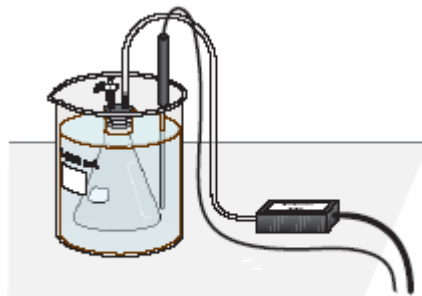

Figure 3
- e. Close the 2-way valve above the rubber stopper—do this by turning the valve handle so it is perpendicular with the valve stem itself (as shown in Figure 3). **The air sample to be studied is now confined in the flask.**
- a. Place the flask into beaker containing cold tap water. Make sure the entire flask is covered (see Figure 3). Stir.
15. Examine the data points along the displayed graph of pressure vs. temperature (°C). As you move the cursor right or left, the temperature (X) and pressure (Y) values of each data point are displayed below the graph. Record the data pairs in your data table. Round pressure to the nearest 0.1 kPa and temperature to the nearest 0.1°C.